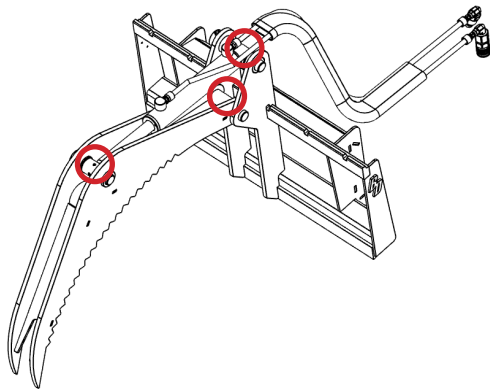

Figure 1
The Mini Grapple Fork has four (3) grease points [Figure 1].